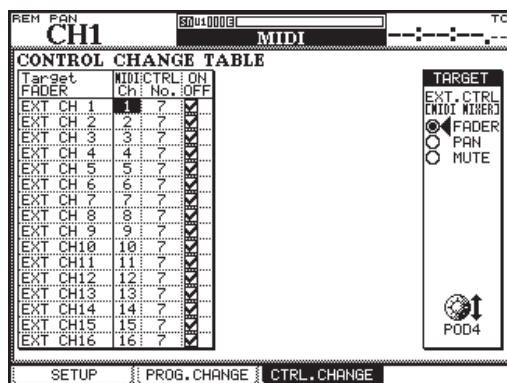

Figure 11: MIDI>CTRL.CHANGE screen
When ON/OFF status is set to ON, a check mark appears in the check box. When it is OFF, the box is blank. In the figure 11, all the channels are set to ON.
**When ON/OFF status is set to ON, a check mark appears in the check box. When it is OFF, the box is blank. In the figure 11, all the channels are set to ON. You cannot operate the MIDI control of the channel pan when the surround mode is not set to STEREO.**